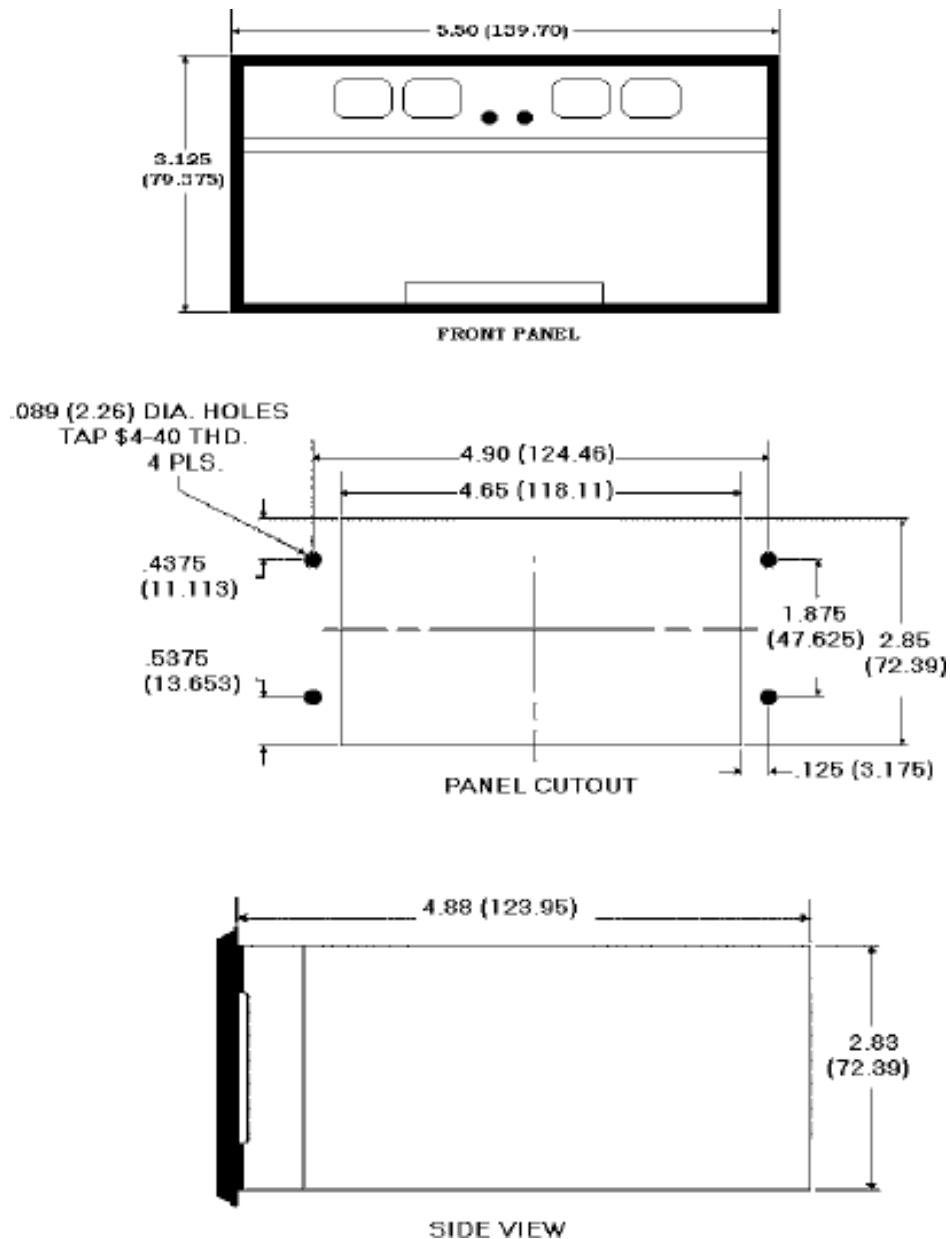

Figure 1 Keltron LC series printer mounting dimensions
1. Cut panel opening and drill mounting holes to specified dimensions (refer to Figure 1). Remove burrs and clean around panel opening.